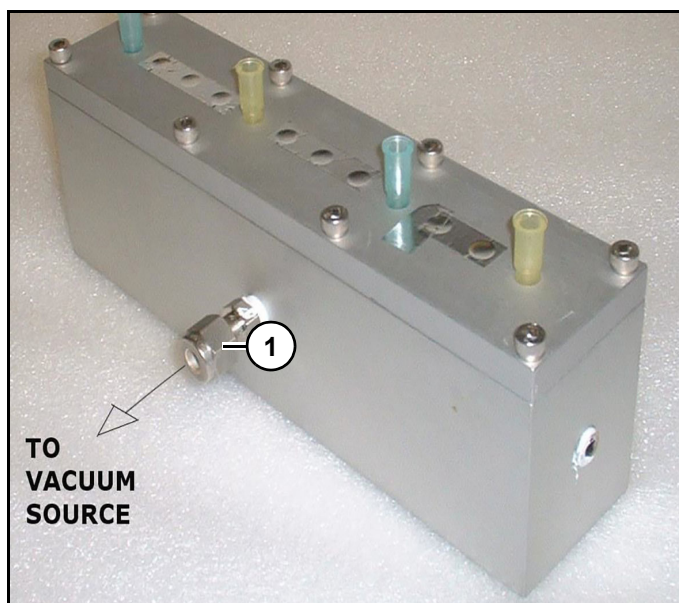

Figure 96
In (Figure 96) positions 1, 5, 9 & 12 are being used. Remaining positions have been sealed. Receptacles corresponding to active positions have been loaded in base of Cleaving Chuck. Top plate can be bolted to lower half of Chuck and Columns removed from Synthesis Chamber and loaded into Top Plate
Drain line (1) (Figure 96) must be connected to a vacuum source.